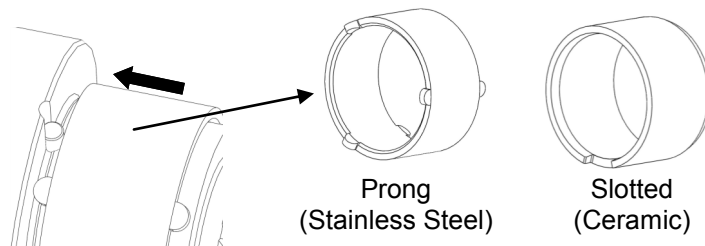
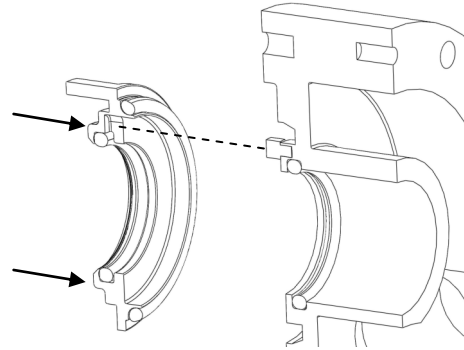

Figure 30: Single O-Ring Seal Assembly
Figure 32: Double O-Ring Seal Assembly
*Assembly:* Clean both shaft ends and the body before assembling. Apply a light film of lubricant to NEW o-rings and insert them on the shafts (slot closest to splines) and into the body. Slide the shaft sleeves onto the shafts until it seats on the shaft shoulder. Shaft sleeves will either have prongs or be slotted and it is vital that the drive pin on the shaft fits between the sleeve prongs/slot (Figure 30). See Pump Assembly on page 31 to continue.
*Assembly:* Clean both shaft ends and the body before assembling. Apply a light film of lubricant to NEW o-rings and insert them on the shafts (slot closest to splines), in the carriers and into the body. Slide the shaft sleeves onto the shafts until it seats on the shaft shoulder (Figure 30). Shaft sleeves will either have prongs or be slotted and it is vital that the drive pin on the shaft fits between the sleeve prongs/slot. Install the o-ring carriers into the back of the body making sure that the pin in the body and the slot on the carrier are lined up (Figure 32). See Pump Assembly on page 31 to continue.